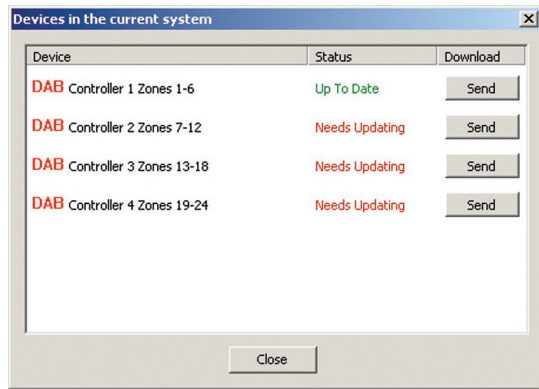

Figure 39. Devices Window
6. Select and left click SEND TO DEVICE from the pull down. The DEVICES IN THE CURRENT SYSTEM Window will open with a list of Devices and their Updating Status Figure 39. If a Device shows: NEEDS UPDATING, this indicates changes have been made in Program Manager that have not been downloaded to that Device. If a Device shows: UP TO DATE, this indicates no programming changes have been made since the last time that Device Program was downloaded.